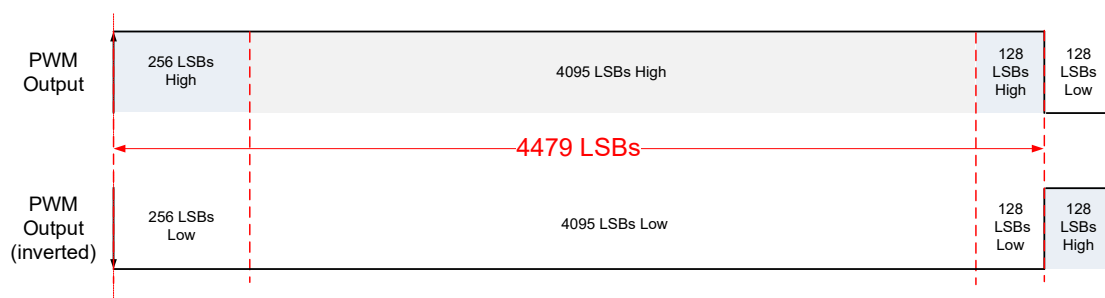
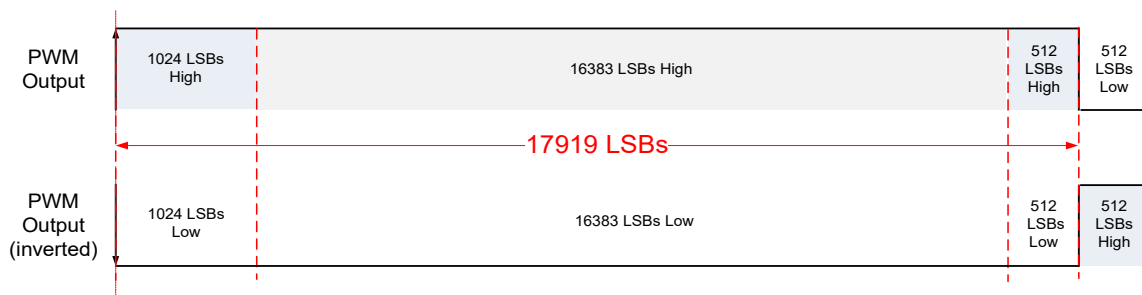

Figure 23. 12-bit PWM Signal in Diagnostics High Mode
Figure 25. 14-bit PWM Signal in Diagnostics High Mode
- Diagnostic high mode, see Figure 23 and Figure 25;